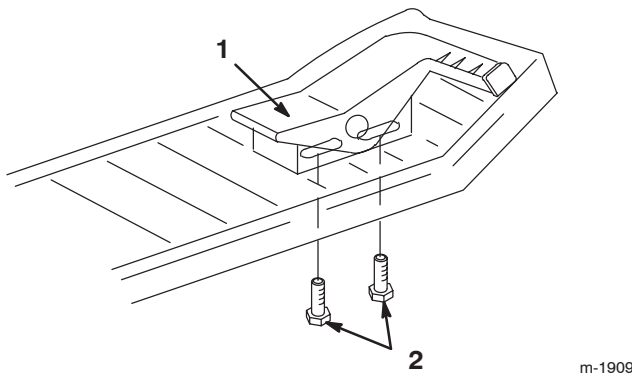

Figure 10
2. Slide the pedal forward for a faster reverse speed or backward for a faster forward speed (Fig. 10).